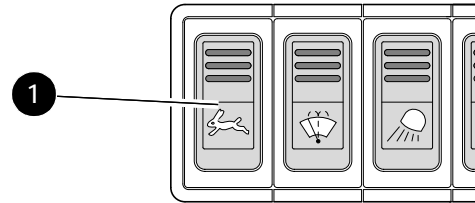

Figure 3-39 Travel Speed Selection
The 753Z and 803 models have an Auto-2-Speed transmission that automatically changes the machine from transport to operation modes. When the switch is pressed and the indicator is OFF, this feature is disabled and the machine operates only in slow speed mode. The travel speed switch (1) located on the control console. See Figure 3-39.